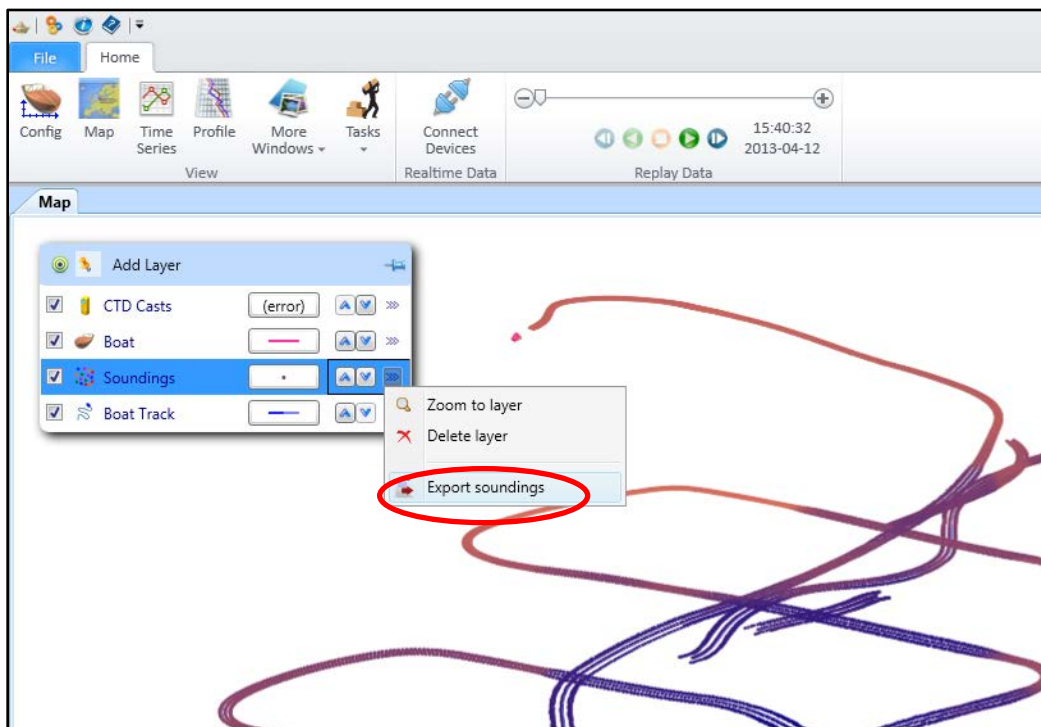

Figure 11.—“Export soundings” within the SonTek HydroSurveyor software.
2. Export the soundings within the soundings data layer by selecting “Export soundings” in the expandable drop-down menu (figure 11).